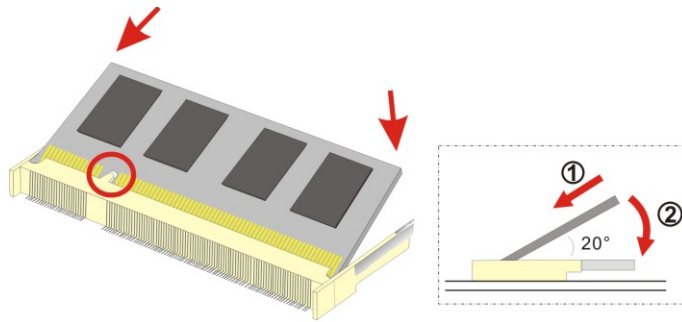

Figure 5-3: SO-DIMM Installation
To install a SO-DIMM into a SO-DIMM socket, please follow the steps below and refer to **Figure 5-3**.
- Step 3:** Insert the **SO-DIMM**. Push the SO-DIMM chip into the socket at an angle. (See Figure 5-3)
- Step 4:** Open the **SO-DIMM socket arms**. Gently pull the arms of the SO-DIMM socket out and push the rear of the SO-DIMM down. (See Figure 5-3)